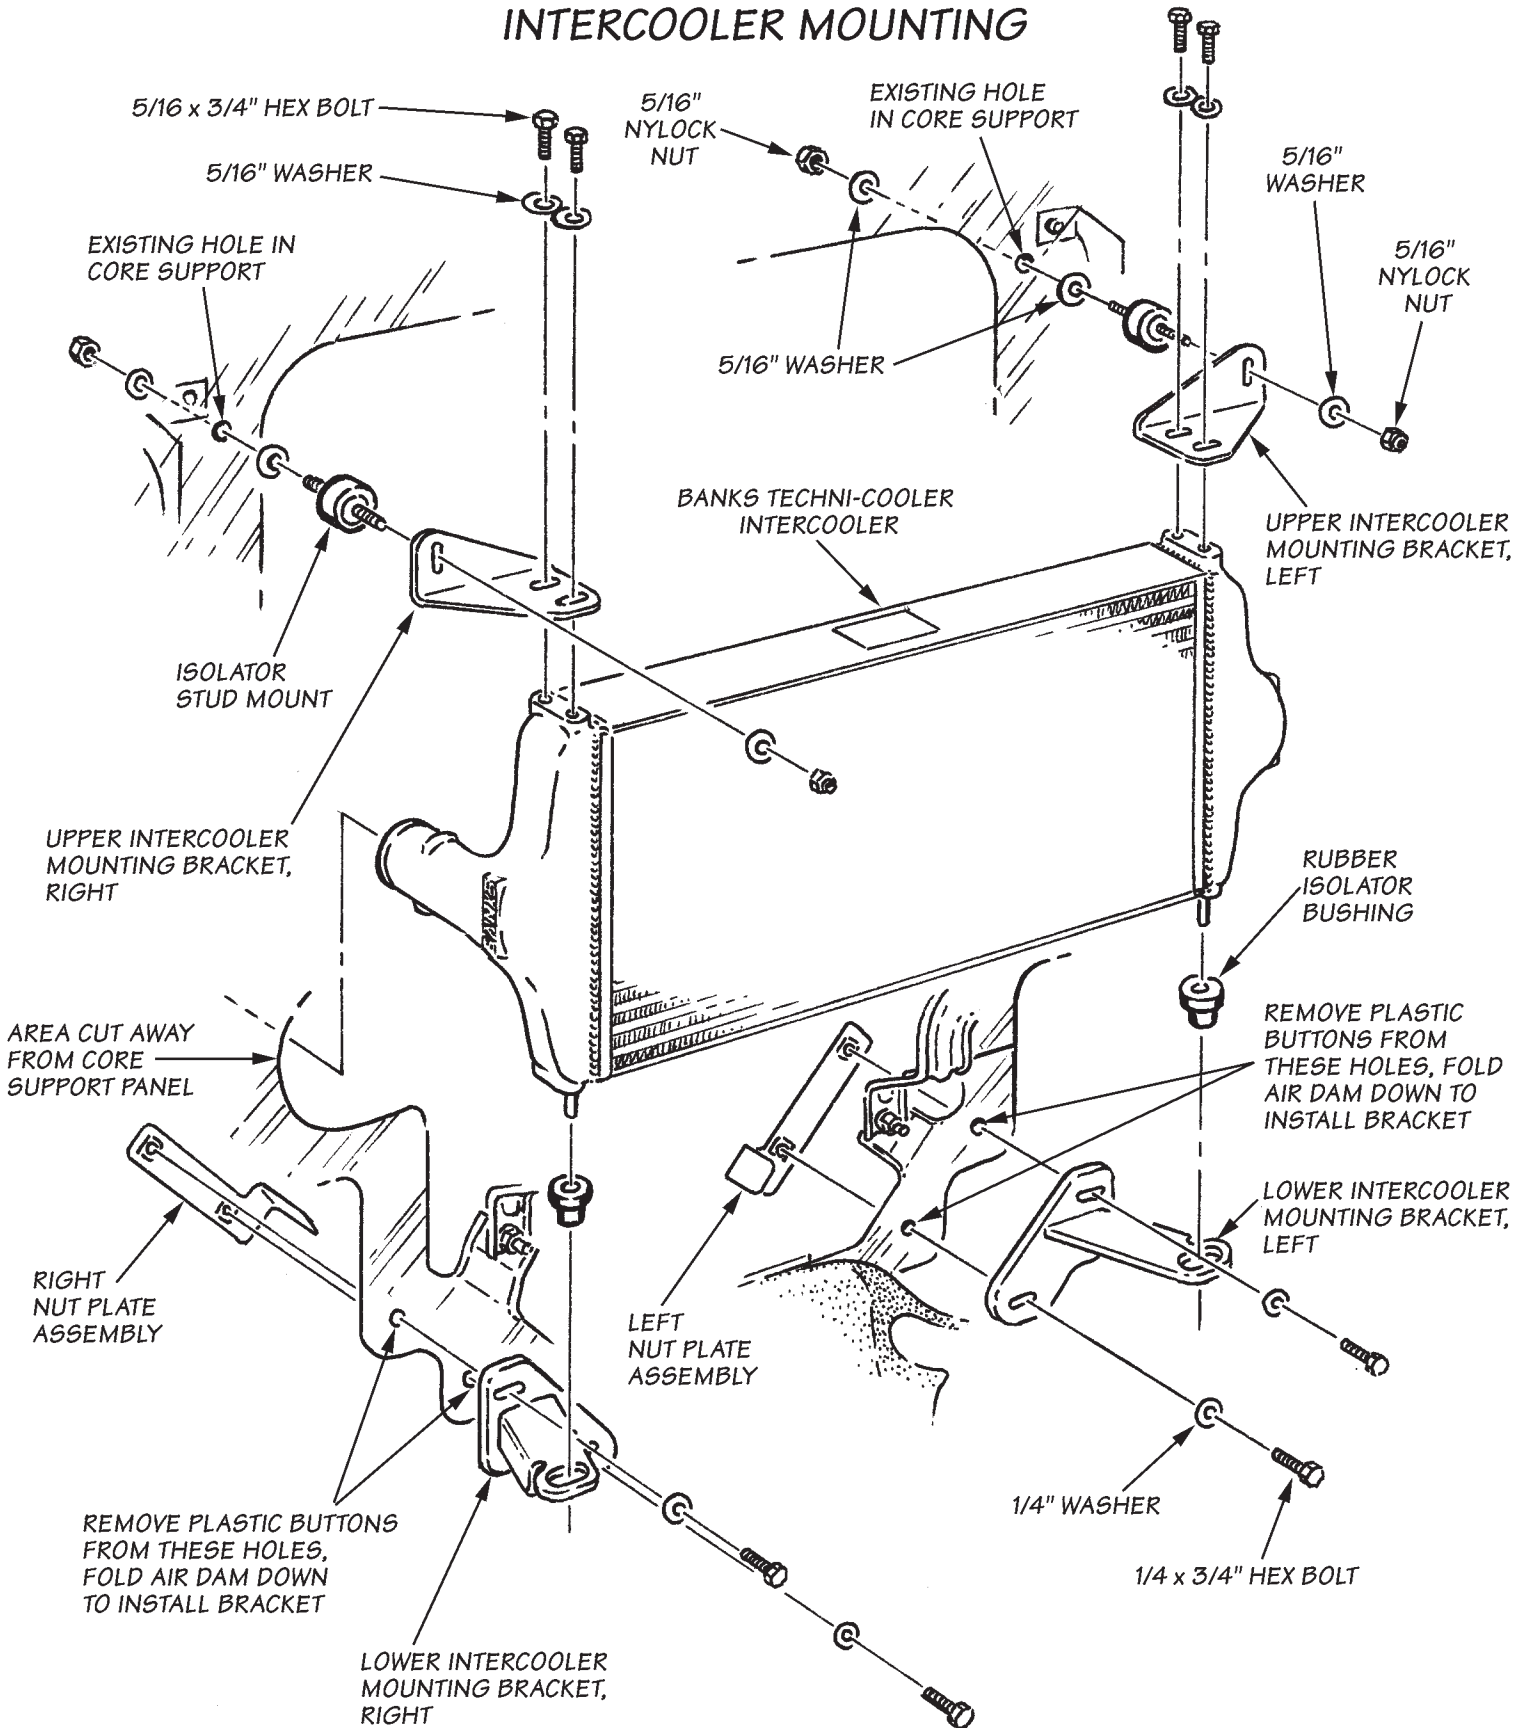

FIGURE 9
42. On all models install the two transmission-fluid cooler mounting brackets provided, as shown in **Figure 9**. These brackets mount over the factory studs in the core support between the air-conditioning condenser brackets and the core support. If the vehicle does not have air-conditioning, install two 8 mm x 1.25 mm nuts provided over the studs with two $\frac{5}{16}$ flat washers.
43. On automatic transmission models only, install two rubber lined loop clamps onto the transmission-fluid cooler as shown in **Figure 9**. Mount the cooler to the brackets using the two $\frac{1}{4}$ x $\frac{3}{4}$ -inch bolts, two washers, and two Nylock nuts. Route the hoses as shown in **Figure 9**.
45. Cut a slit in each side of the factory rubber air-dam as shown in **Figure 9**. Slide the slit over the edge of each lower intercooler mounting bracket as shown. Mark through the two holes on the forward facing tabs on the transmission-fluid cooler mounting brackets onto the rubber air-dam. Drill a $\frac{1}{4}$ -inch hole through the rubber at these two locations. Bolt the factory air-dam to the transmission-fluid cooler brackets using two $\frac{1}{4}$ x $\frac{3}{4}$ -inch hex bolts, washers, and Nylock nuts provided.